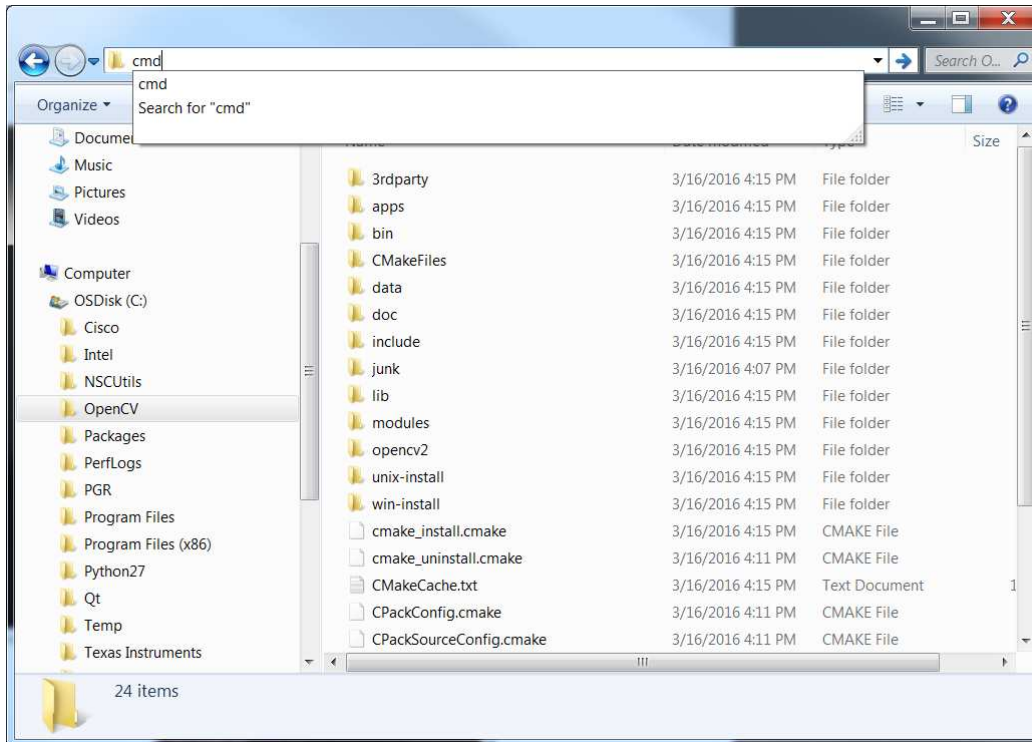

Figure 35. Open Command Line in OpenCV Window
12. Next, in File Explorer, browse to where the OpenCV files were built. In the file path line, type “cmd” as shown in Figure 35. This will open the command line window in the folder selected.